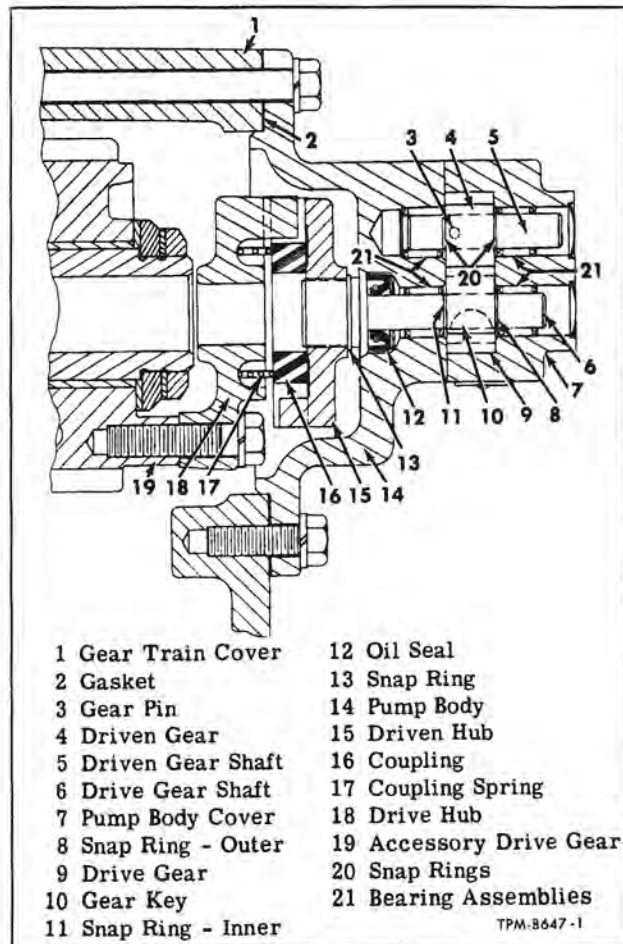

Figure 9—Oil Pump and Coupling
Fluid pump is gear type, mounted at rear of engine, and driven by coupling from accessory drive gear (fig. 9).
3. Remove driven hub, coupling spring, and coupling. If necessary to remove drive hub (18, fig. 9) remove bolts and lock washers which hold drive hub to accessory drive gear.
Key numbers in text refer to figure 9.
4. Position pump assembly to geartrain cover, using care that coupling mates with drive hub and driven hub. Refer to figure 9.
6. Connect suction and discharge lines (2 and 9) at locations shown. If suction line (9) has been removed, clip line at clutch housing. Check oil level in transmission, start engine and inspect pump and lines for leaks.